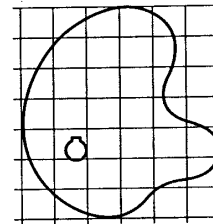

FIGURE 2.43 ■ Step 6, completely darken the outline of the object.
- Step 6. Darken the outline for a complete proportioned sketch, as shown in Figure 2.43.